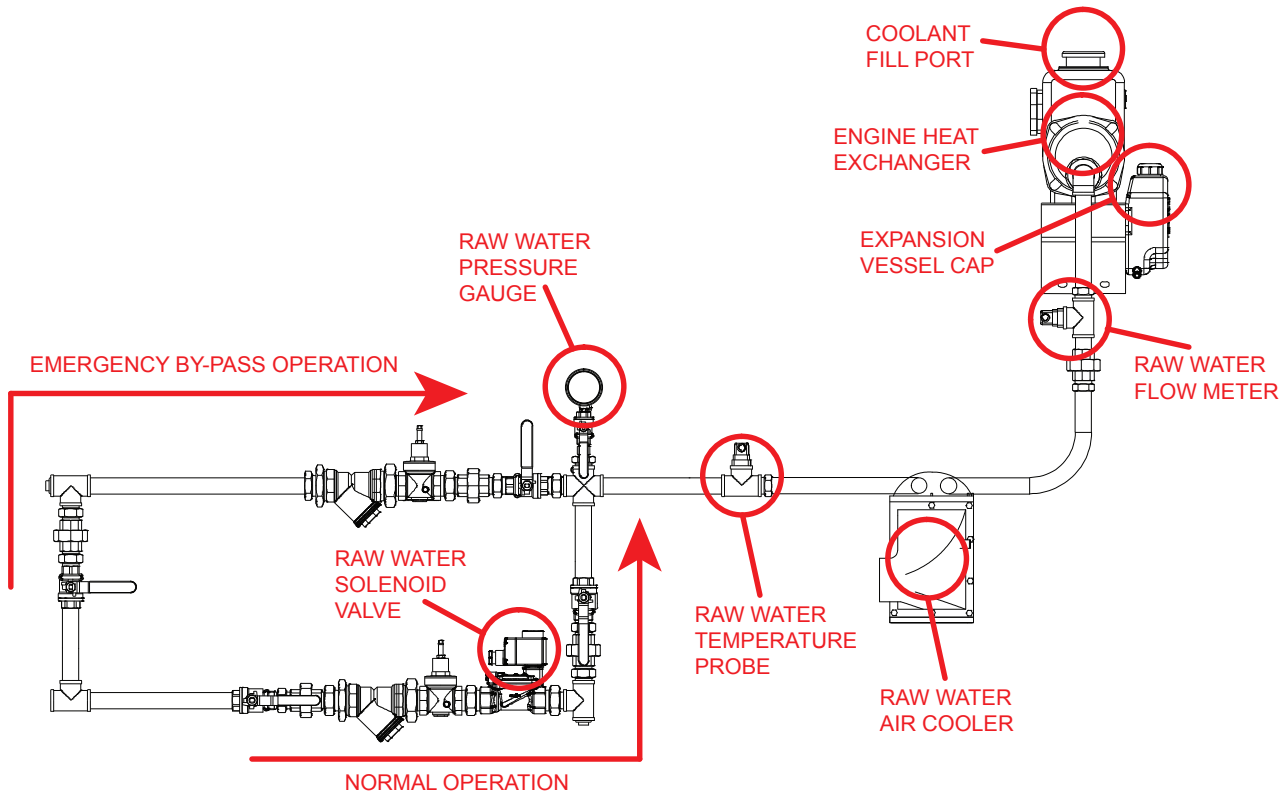

FIGURE 25 - EXTERNAL DIESEL ENGINE COOLING LOOP WITH AIR COOLER
- Remove the dipstick and wipe with a lint free cloth. See FIGURE 25.